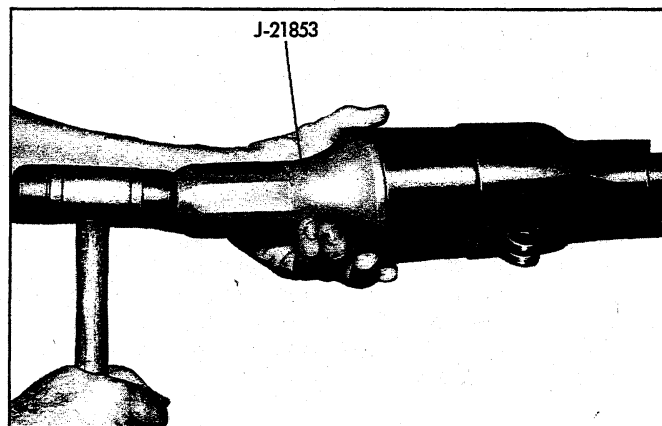

Fig. 48—Installing Turn Signal Switch Cover Using Signal Switch Installer Tool J-21853
28. Check to insure hazard warning switch is pushed in. Remove tilt release control lever and install turn signal switch cover using turn signal cover installer Tool J-21853 (fig. 48). On automatic column, be sure key in the cover is aligned with keyway in bearing housing.